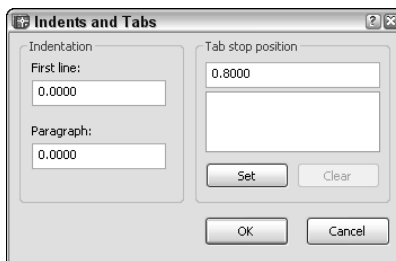

Figure 13-18: Use the new Indents and Tabs dialog box to set indents and tabs for your text.
- ♦ **Indents and Tabs:** Opens the Indents and Tabs dialog box, as shown in Figure 13-18. You can set the following: